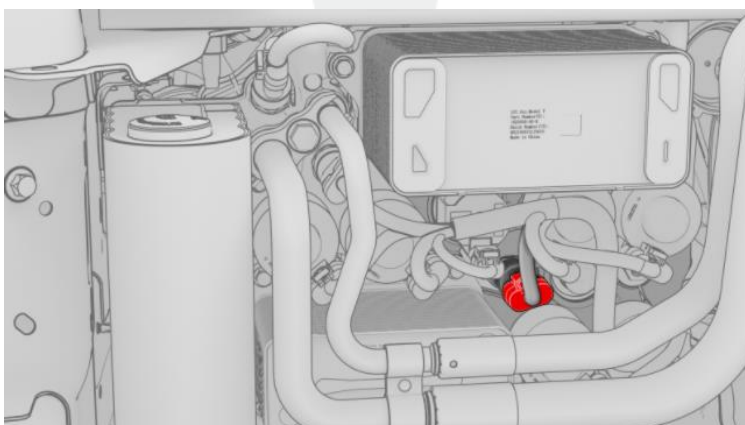

Figure 5
8. Release the locking tab, and then disconnect the electrical harness from the subcool high pressure P/T sensor connector (Figure 5).
18. Connect the electrical harness to the subcool high pressure P/T sensor connector, and then fasten the locking tab (Figure 5).